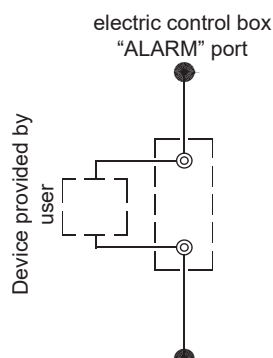

Fig. 8-23 Wiring of “ALARM” port
- h) The by-pass pipes and by-pass valves as shown in Fig.8-23 must be mounted for the heat exchanger, to facilitate cleaning of the outside system of water passage before the unit is adjusted.